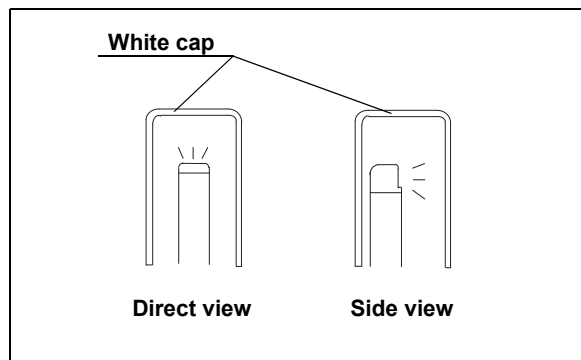

Figure 4.10
1. Insert the endoscope's distal end into the white cap and hold the white cap and endoscope stable to avoid wash-out of the monitor image (see Figure 4.10).